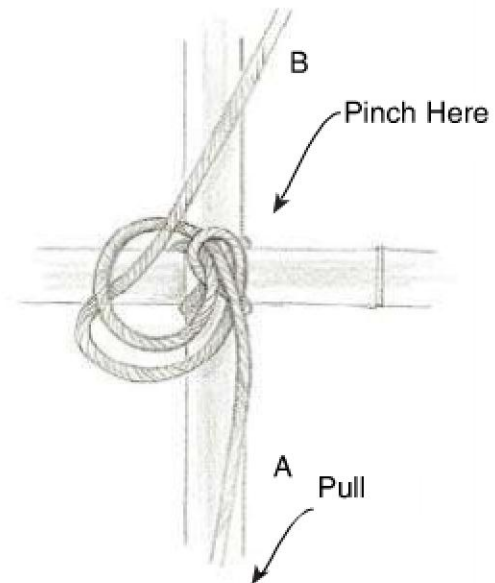

Figure 5
5. Twist B under A. Take B clockwise under, around, and through the loop. While pinching with your left hand, use your right hand to pull A to complete and tighten the knot. Figure 5.